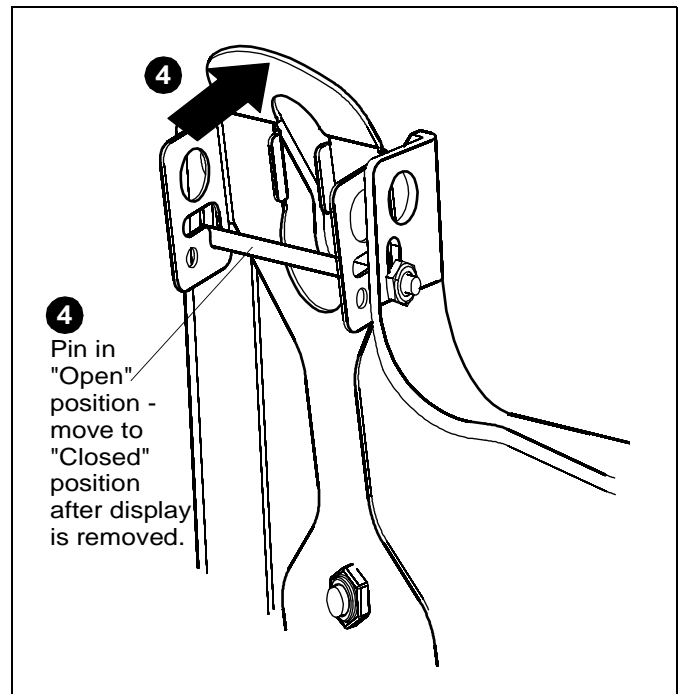

Figure 15
- Lift up on pin and place flag back against faceplate to return it to "Closed" position. (See Figure 15)